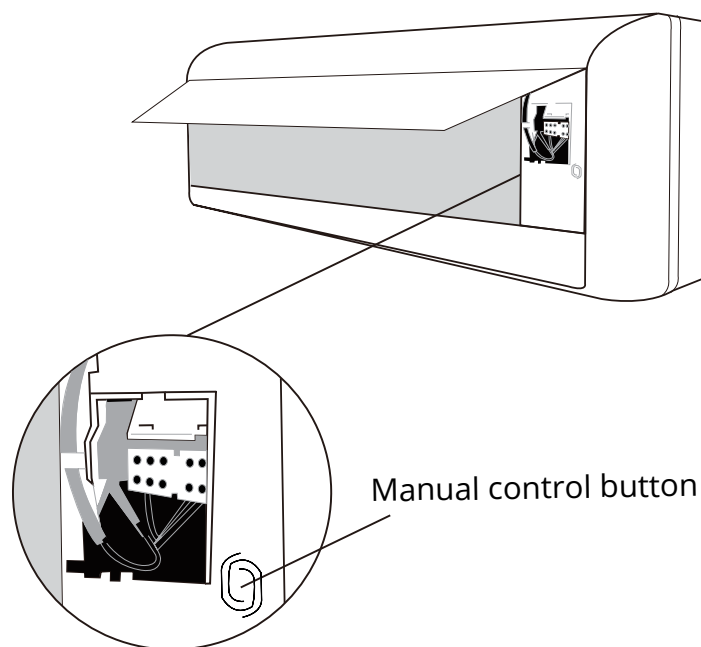

Fig. 9.1
2. The **MANUAL CONTROL** button is located on the right-hand side of the unit. Press it 2 times to select the COOL function. See **Fig.9.1**